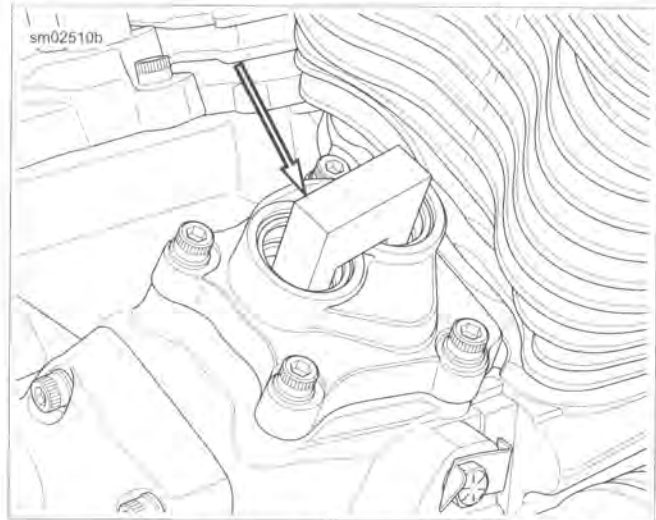

Figure 3-79. SCREAMIN' EAGLE Magnetic Lifter Holder
2. See Figure 3-79. Support lifters using SCREAMIN' EAGLE MAGNETIC LIFTER HOLDERS (Part No. 93979-10).